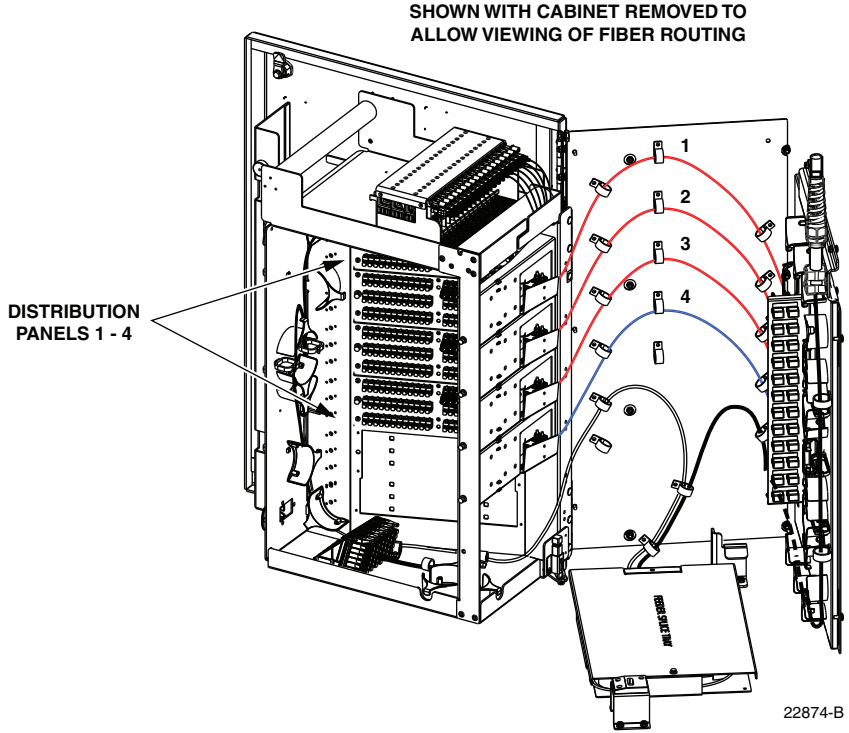

Figure 69. Distribution Cable Fiber Routing
5. Route the distribution panel subunit fibers to the appropriate adapter on the bulkhead adapter panel as shown in Figure 69.